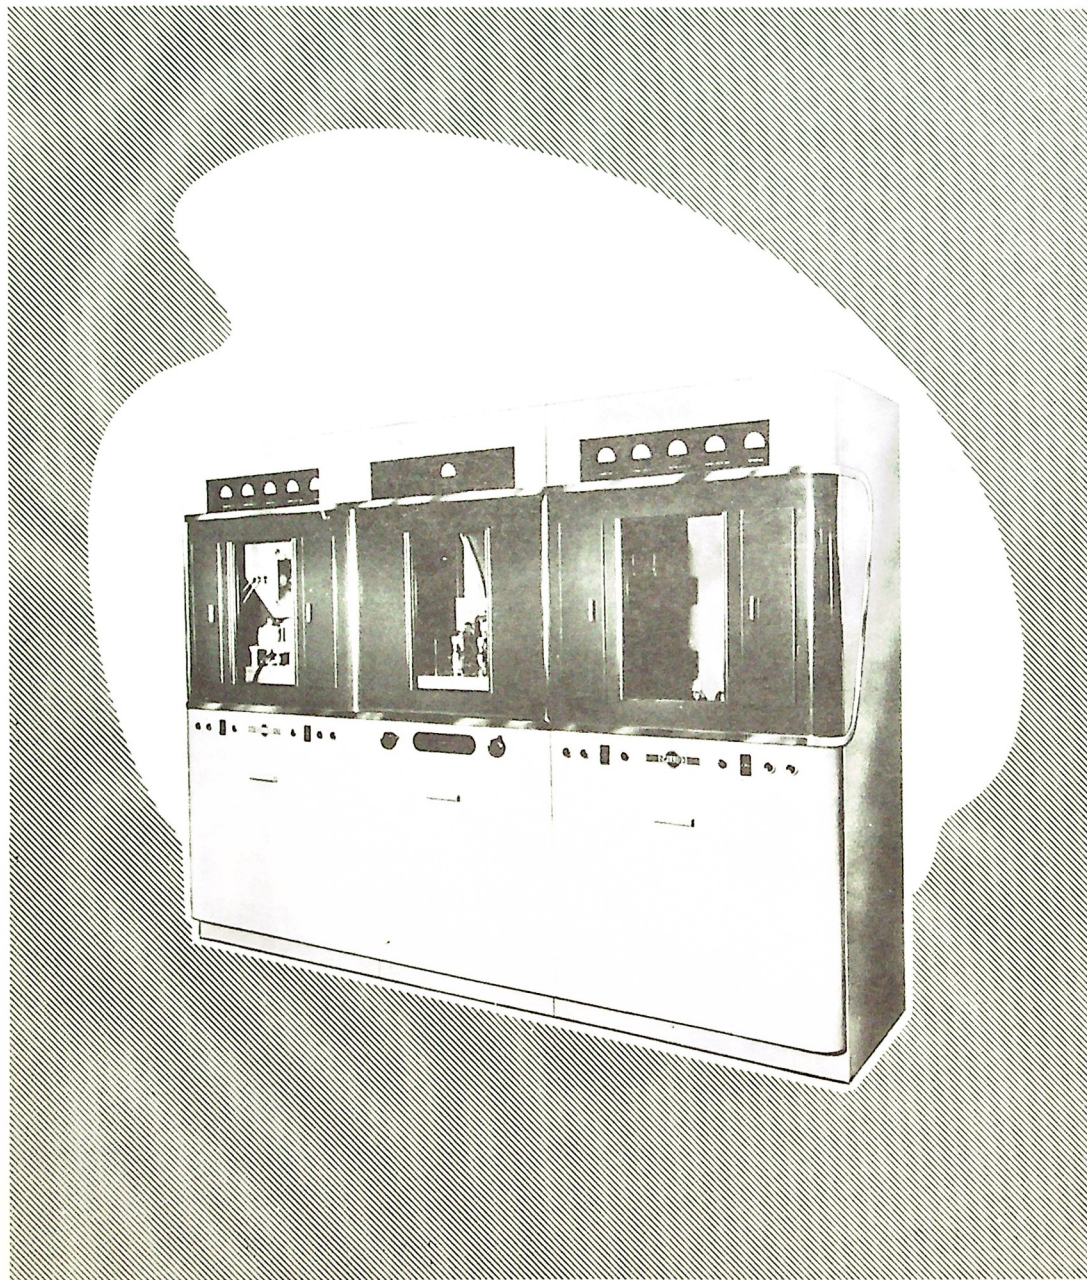

Figure 1-1. 21E, Front View
**1.1.4 ELECTRICAL DESCRIPTION.** See figure 1-1. The radio-frequency portion consists of 6AU6 crystal oscillator, a 6SJ7 isolation buffer, an 807 r-f amplifier, followed by a pair of 4-125A tetrode driver amplifiers. These excite a 3X2500A-3 triode power amplifier in the 21E or two parallel 3X2500A-3 triodes in the 21M.